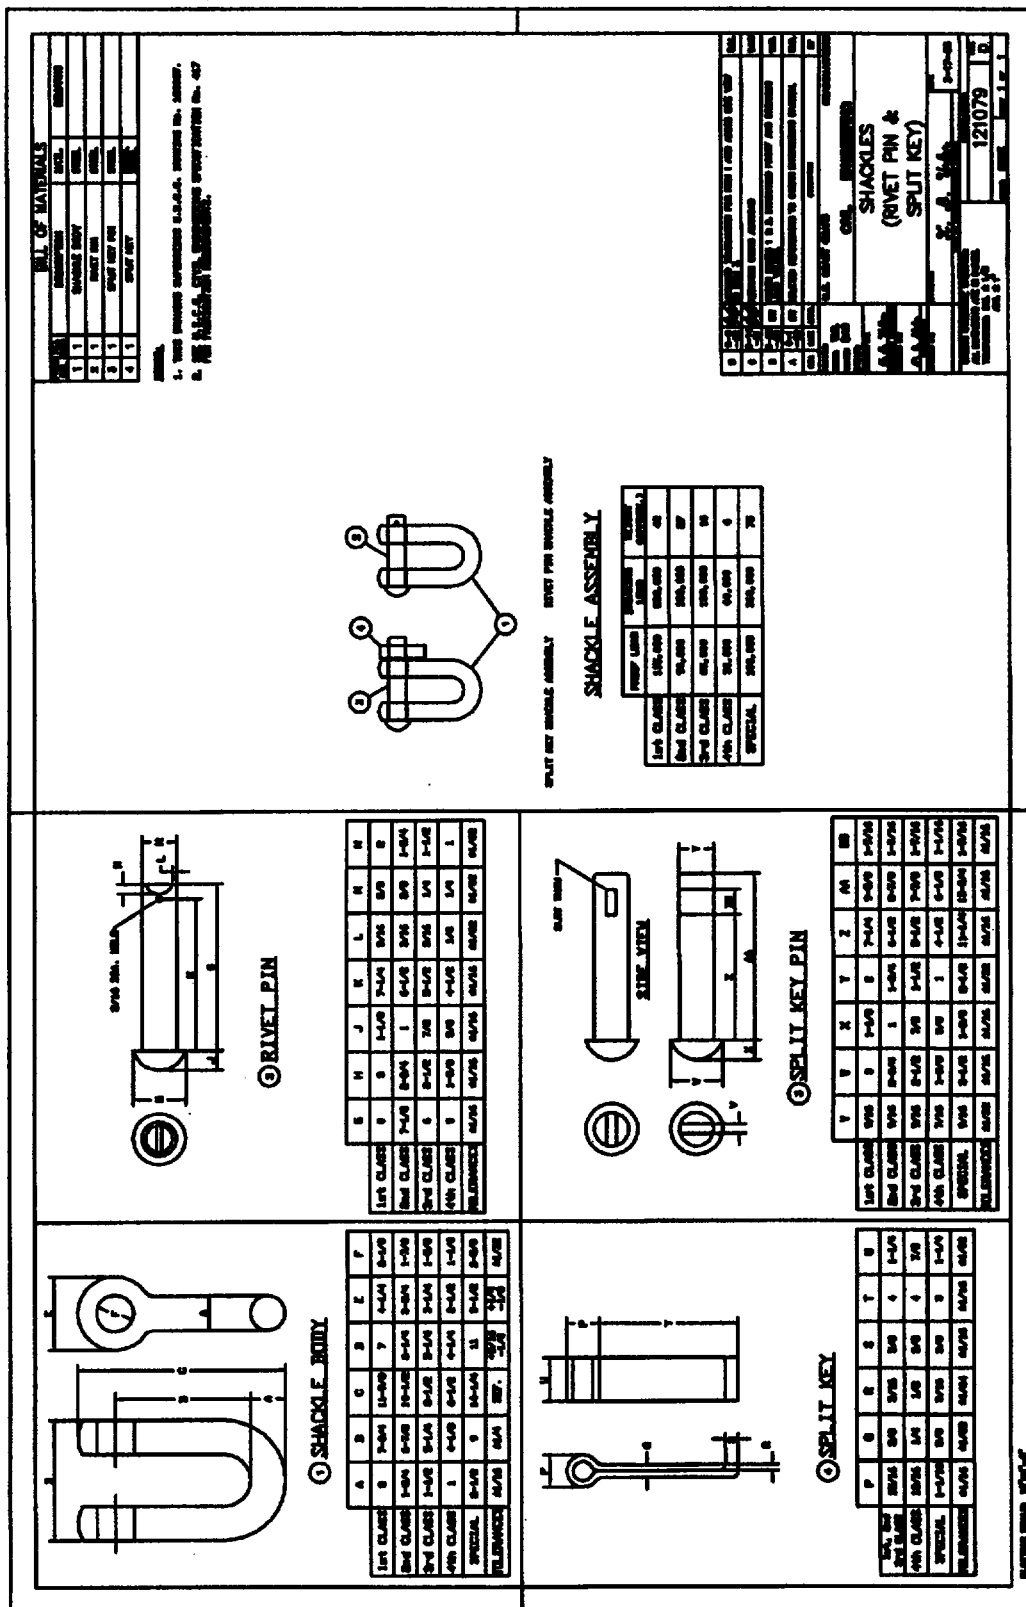

Fig. 8-4 Rivet-pin shackle
- a Shots and sections of chain used in buoy moorings are joined with rivet pin (heat and beat) shackles (See **Figure 8-4.**) The size of the shackle depends on chain size and its proof load. Use shackles that have proof loads equal to or greater than the largest size chain it is connecting. Consult the Aids to Navigation Technical Manual (COMDTINST M16500.3) to determine the proof loads of buoy chain and shackles. The following are procedures used when using rivet pin shackles:
- (1) Avoid placing rivet pin shackles in the chafe section of the mooring.
- (3) Place the bow or clevis of the shackle into the chain coming from the buoy. The pin surface bears on the chain coming from the sinker. This lessens the possibility of the shackle getting fouled with the chain stopper horse collar when the mooring is retrieved.